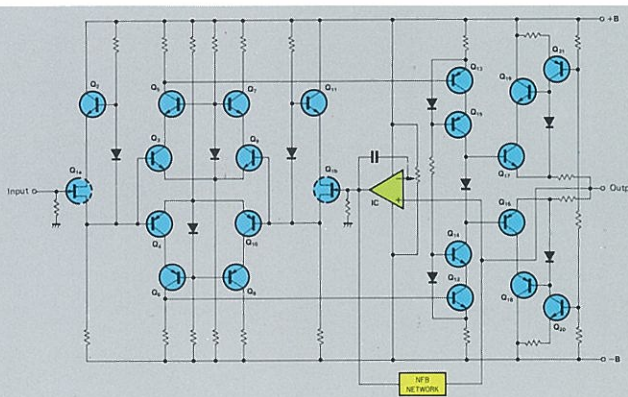

Fig. 1 Basic Diagram of Unit Amplifier
Fig. 1 is the circuit diagram of the equalizer amplifier and high-level amplifier. This ideal amplifier circuit consists of a cascode amplifier and Class-A push-pull circuits at every stage, an Accuphase tradition. This further improves desirable amplifier characteristics to the utmost limits before negative feedback (NFB) is performed. The cascode amplifier consists of two elements (transistors) vertically connected so that the two elements operate as one. This arrangement increases the input impedance and gain and simultaneously enhances the high-frequency characteristics. In addition, linearity is maintained until the operating limit of the elements is reached, resulting in decreased distortion, improved signal-to-noise ratio, and realization of the ideal characteristics of an amplifier circuit. The Class-A push-pull circuitry further improves the characteristics.
The diagram in Fig. 1 may give you the impression that the circuit is quite complicated. However, it basically consists of only three stages: 1) the "cascode push-pull differential amplification stage" (transistors Q1 to Q11), 2) the driver stage (transistors Q12 to Q15), and 3) the output stage (transistors Q16 to Q21). These three stages assure high circuit stability.
The IC in Fig. 1 is the "DC servo circuit" that keeps the output signal to the zero potential by detecting and feeding back to the input the DC component generated in the output. In other words, it prevents DC drift. The IC enables direct coupling of all the signals from the analog disc (LP) input to the output and thus helps produce high quality sound that carries no trace of coloration.
The basic circuit configuration of the equalizer amplifier is shown in Fig. 1. Since the level of the signals to be processed is very weak, they are easily affected by inherent noise. Therefore, low-noise field effect transistors (FETs) are carefully selected for the input.